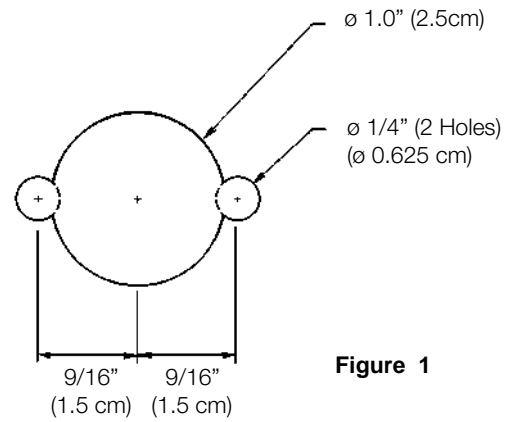

Figure 1
- Drill the mounting holes as shown in Figure 1.